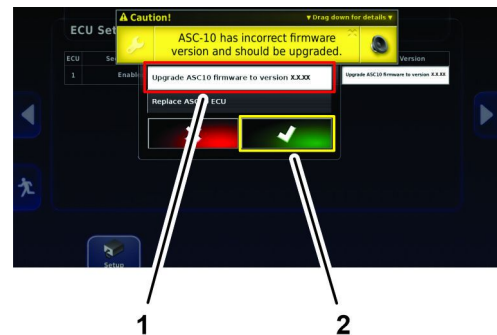

Figure 29
3. In the ASC setting dialog box, press the UPGRADE ASC FIRMWARE TO VERSION 2.02.18 icon, and press the confirm icon (Figure 29).